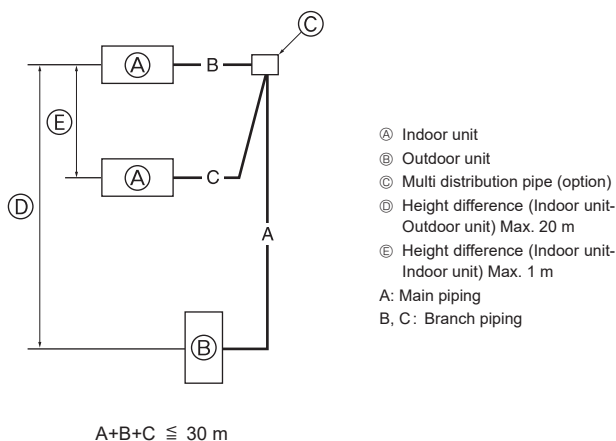

Fig. 4-7
4.8. For twin indoor units combination (Fig. 4-7)